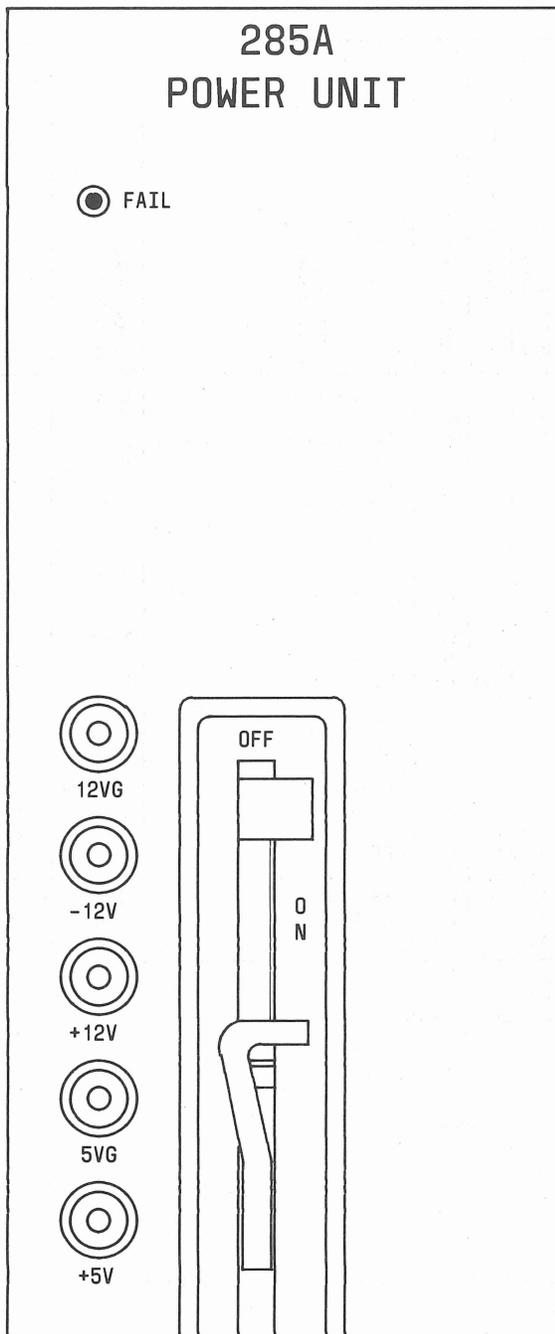

Fig. 7—G-Signaling Power Converter
2.09 The 285A power unit is a dc-to-dc converter. This unit (Fig. 7) filters and converts -48 volt dc office battery to ± 12 and +5 volt dc.